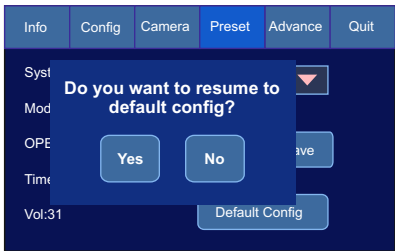

Figure 4.31
- 1.When selected, it will ask to resume default configuration and display a prompt **"Do you want to resume to default config?"** along with "Yes" and "No" buttons. (See Figure 4.31)